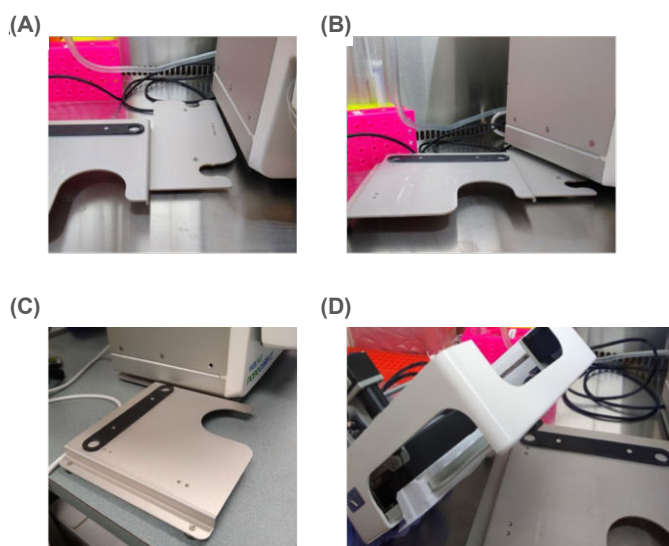

Figure 59. The N1 Single-Cell Dispenser setup.
1. Connect the N1 adaptor stand to the WOLF G2 (Fig. 59). The stand should be positioned adjacent to the left edge of the WOLF G2. Secure the stand in place by pressing it firmly under the WOLF G2 and hitching the stand around the feet (Fig. 59 A-C). The notches of the stand fit the front and back left feet of the WOLF G2.
2. Place the N1 Single-Cell Dispenser on top of the stand. The N1 should be positioned so that the slot for the reagent reservoir and sorting plate are facing forward, and the two back feet of the WOLF G2 are inserted in the corresponding round areas on the stand (Fig. 59 D).